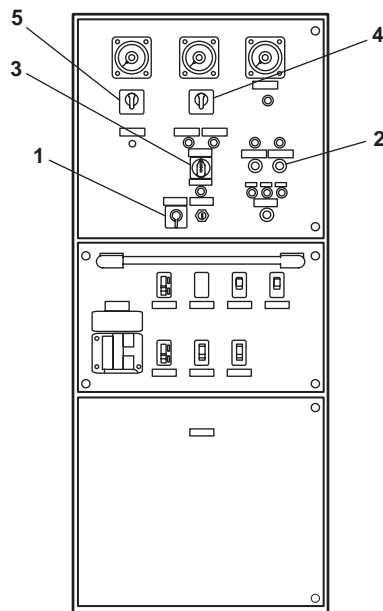

Figure 2. Emergency Switchboard
- a. Set the ENG. CONTROL SW. (figure 2, item 1) to OFF.
- b. Push the main switchboard bus-tie circuit breaker (figure 2, item 2) to the OPEN position.
- c. Set the ENG GENERATOR circuit breaker (figure 2, item 3) to OPEN.
- d. Set the AMMETER switch (figure 2, item 4) to OFF.
- e. Set the VOLTMETER switch (figure 2, item 5) to OFF.